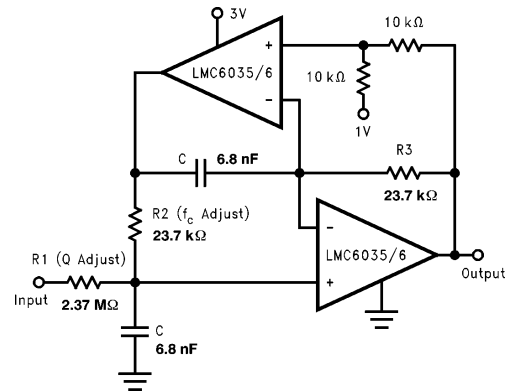

FIGURE 7. 2 Pole, 1 kHz Active, Bandpass Filter
The dual amplifier bandpass (DABP) filter features the ability to independently adjust f_c and Q. In most other bandpass topologies, the f_c and Q adjustments interact with each other. The DABP filter also offers both low sensitivity to component values and high Qs. The following application of *Figure 7*, provides a 1 kHz center frequency and a Q of 100.
- First choose a center frequency (f_c). *Figure 7* represents component values that were obtained from the following computation for a center frequency of 1 kHz.